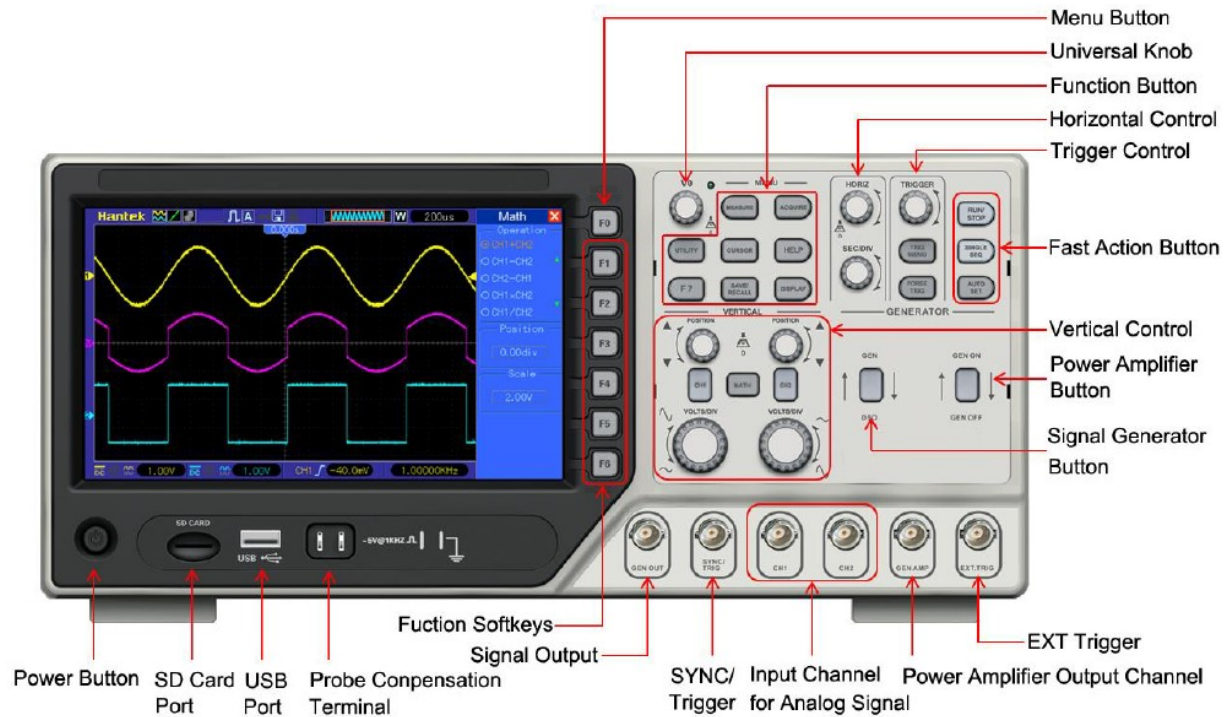

Figure 1 - Hantek DSO4102C Oscilloscope
For all the steps below, refer to Figure 1 for the location of configuration knobs, buttons or soft-keys and Figure 2 for the indicators on the Readout Display. Please spend a few moments familiarizing yourself with the configuration/functional groups in Figure 1 and on your oscilloscope.
2. Once the oscilloscope has gone through self-configuration, enable channel one only by pressing the “CH1” button in the “Vertical Control” group (See Figure 1).
3. Connect one probe to the channel 1 analog input by inserting and then twisting the probe’s BNC connector onto “CH1” BNC connector on the scope in. (“CH1” BNC connector can be found in the “Input Channel for Analog Signal” group shown in Figure 1.)
Oscilloscopes normally provide a simple “Probe Compensation Terminal” (see Figure 1) which provides a test signal. For today’s project, we will use this terminal to simply display a “time varying” signal on the probe.
Once again, for all the steps below, refer to Figure 1 for the location of configuration knobs, buttons or soft-keys and Figure 2 for the indicators on the Readout Display.
1. Connect the BNC cable included with your oscilloscope to the “GEN AMP” connector (“Power Amplifier Output Channel” in Figure 1) on the scope.
2. Turn on the waveform generator by pressing the “GEN ON” button (“Power Amplifier Button” in Figure 1).
3. Press “F1” button (in the “Menu Button” group in Figure 1) to select “Sine”. This will configure the waveform generator to output a sinusoidal signal.
- a. Set “SEC/DIV” (in the “Horizontal Control” group in Figure 1) to 200 μ s.
- b. Make sure the horizontal trigger point is centered on the horizontal axis by pressing the “HORIZ” knob (in the “Horizontal Control” group in Figure 1).
7. Connect the other end of the BNC cable to the BNC connector for “CH1” (in the “Input Channel for Analog Signal” Figure 1)